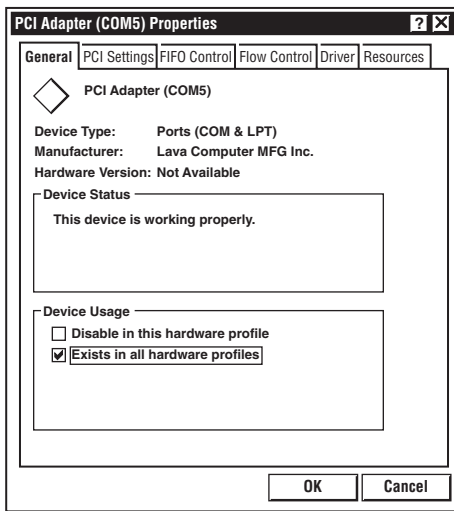

Figure 5-2. Adapter Properties screen, General Tab.
5. Click Properties. The screen shown in **Figure 5-2** will appear.